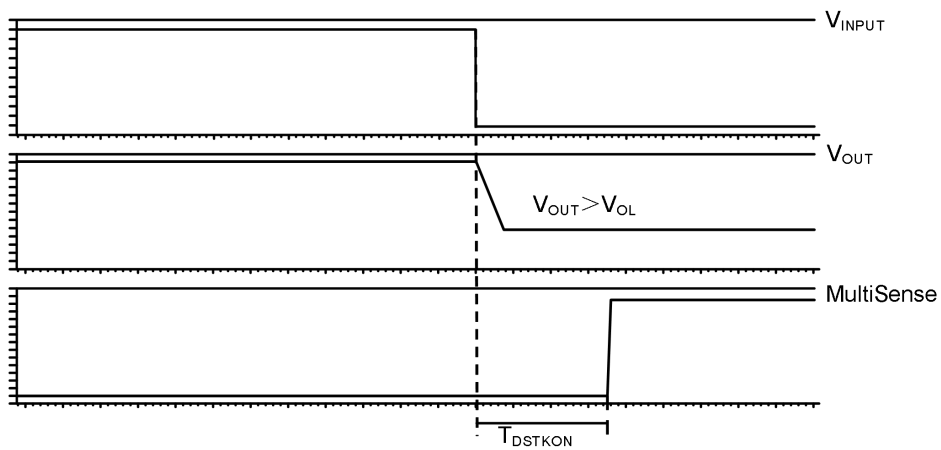

Figure 3. t_{DSTKON}
- (1) Parameter guaranteed by design and characterization; not subjected to production test.
- (2) Specifications subject to change without notice.
- (3) Guaranteed by design.
- (4) See figure 3